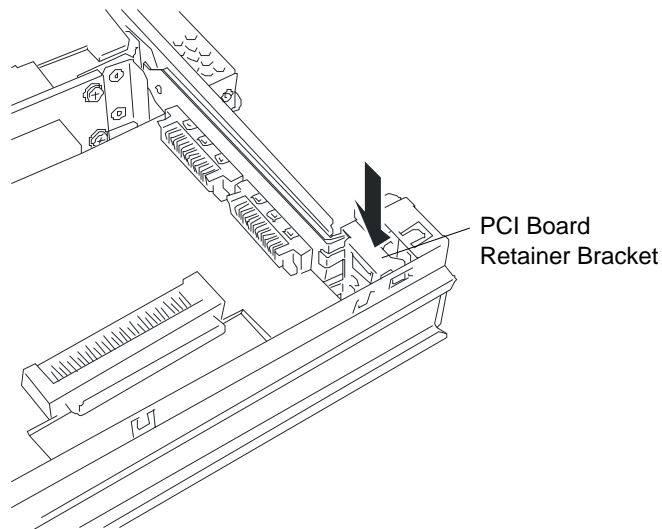

Figure 4-30. Installing the PCI Board Retaining Bracket.
9. Install the PCI board retaining bracket. See Figure 4-30.